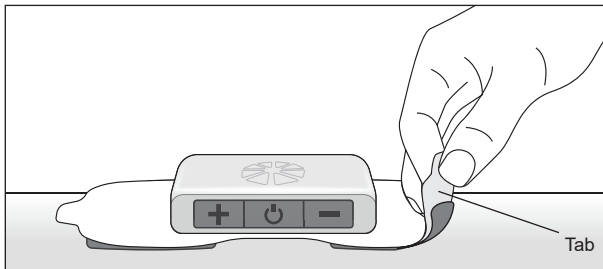

Figure 8-7: Removing the Gel Electrode
4. Grasp the tab on the Gel Electrode and gently pull the electrode away from the skin. See Figure 8-7.